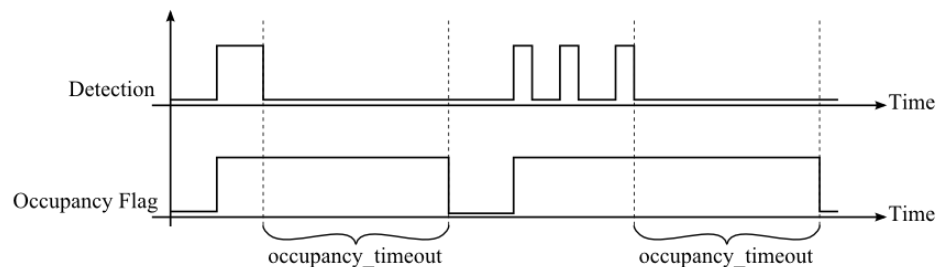

Figure 9: Occupancy Sensor Operation
<p>With this register the function of occupancy sensor is enabled and controlled.</p> <p>occupancy_timeout: defines a timeout in seconds when the state of the occupancy flag of the short pressed register at address 1 will be cleared again after motion was detected. Anyway the occupancy flag of the present state register at address 0 will show the actual state of the occupancy sensor without occupancy timeout. Please see Figure 9 for further information on operation.</p> <p>EN: occupancy sensor enabled, only if enabled the occupancy flag of the present state and short pressed register at address 0 and 1, Table 7 on Page 26 will be set.</p> <p>① Applies only to LSTAT-801-Gx-Lx and LSTAT-802-Gx-Lx.</p>
As depicted in Figure 9 the occupancy flag is set when motion is detected and will be cleared again after the occupancy_timeout has exceeded as defined at the occupancy_sensor_configuration register.